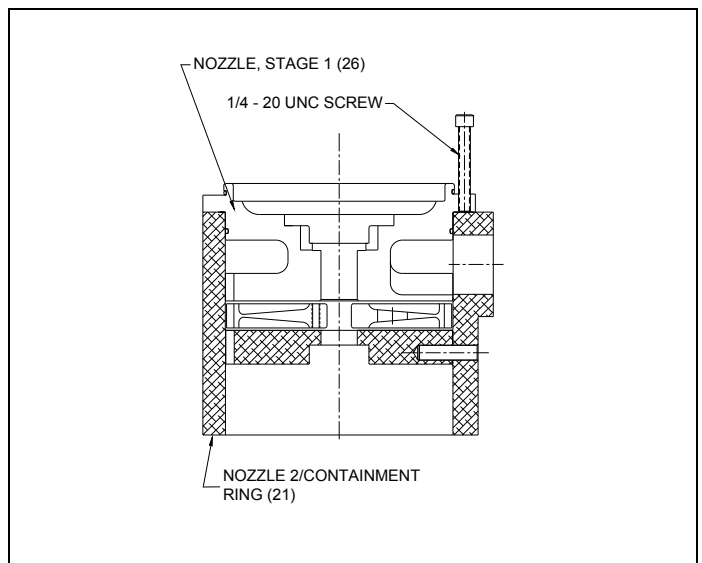

Figure 9. Nozzle 2 Removal
Install three screws (42) removed from the gearbox housing into the jack holes on the turbine housing (26) as shown in figure 9.